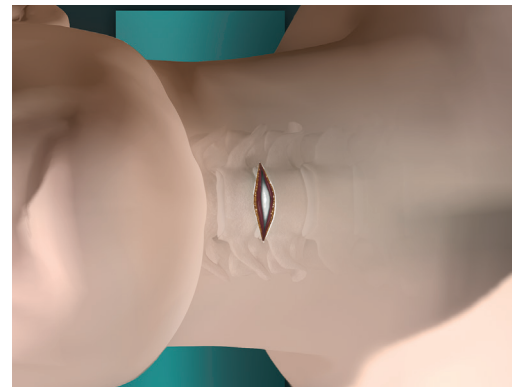

Figure 2
- ▲ Expose the intervertebral disc and the adjacent vertebral bodies through a standard anterior approach to the cervical spine (Fig. 2).